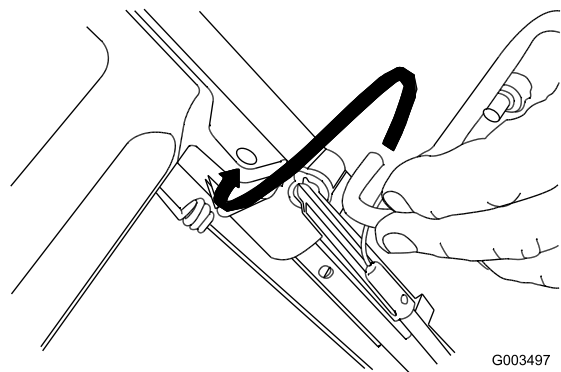

Figure 3
1. Install the blade control bar into the upper handle (Figure 3).